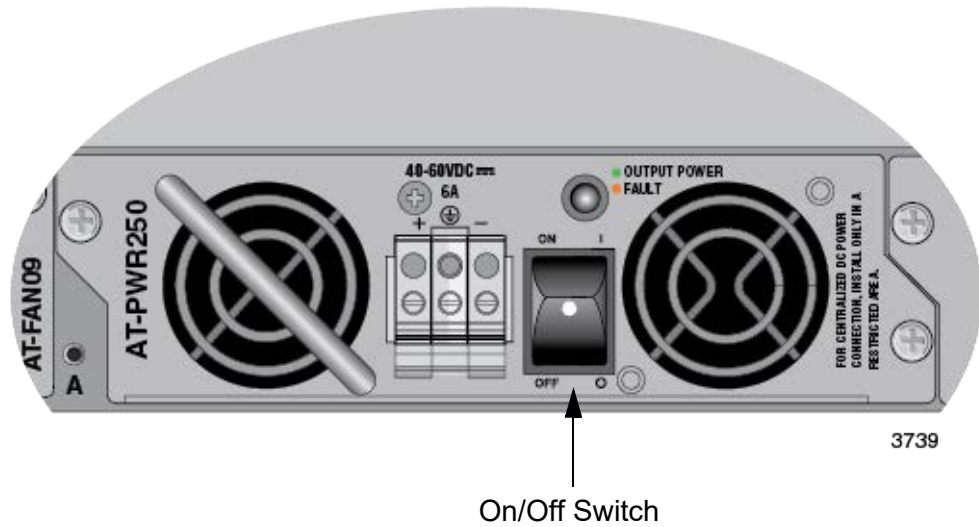

Figure 66. On/Off Switch on AT-PWR250-80 Power Supply
2. Verify that the On/Off switch on the power supply is in the Off position. Refer to Figure 66 on page 138.